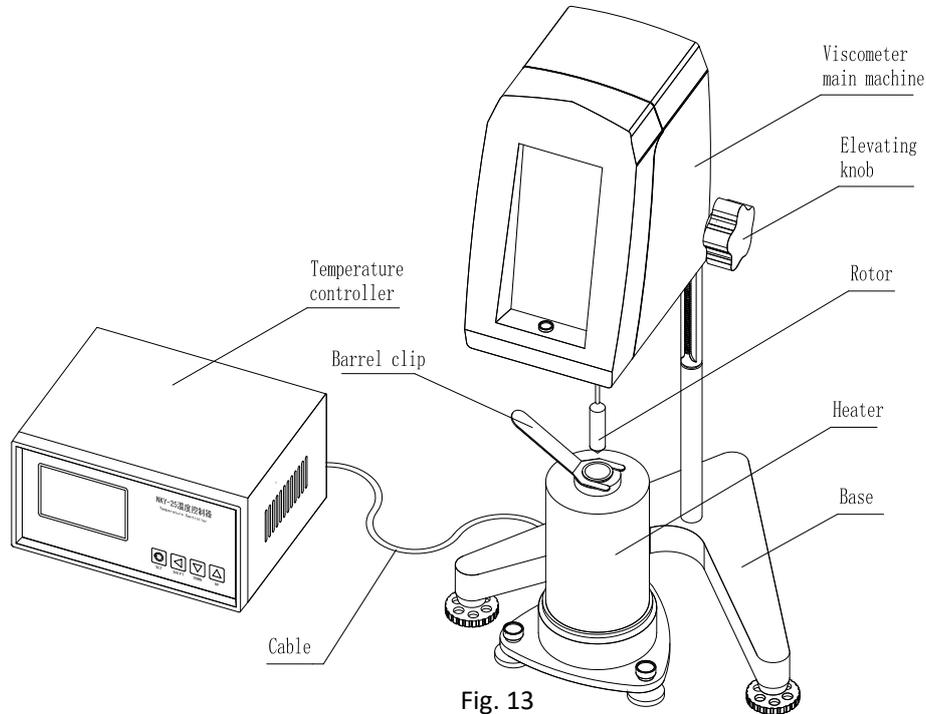
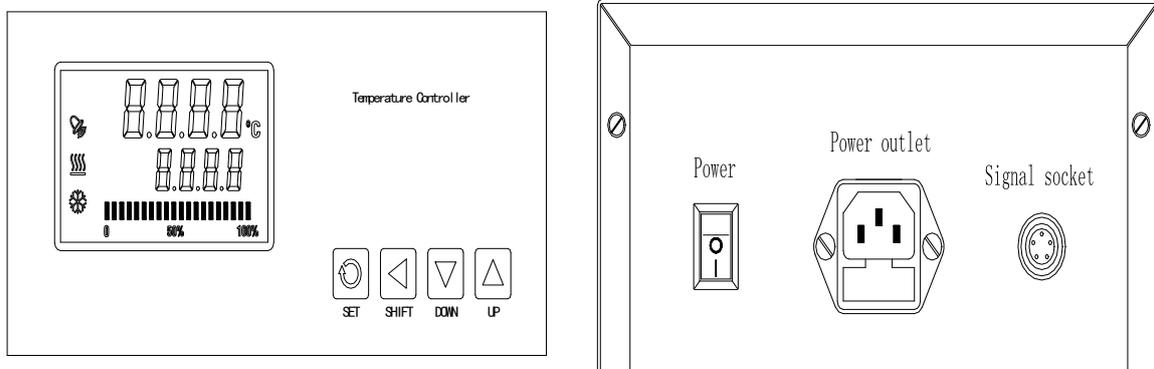

Fig. 13
Fig. 14
controller, and the well installed shape is shown in Fig. 13. (The wire must be correctly connected by matching the slot with the corresponding position.) The front and back of the temperature controller NKY-25 is shown in Fig. 14.
(1) Fig. 14 shows the front view of temperature controller, the LCD part at the left is the temperature display area, and the right part is the temperature setting area.